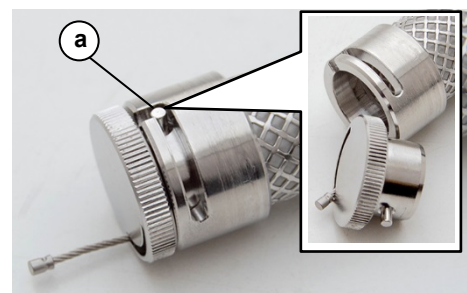

Fig. 37: Cleanfinity filter opened
1. Turn the bayonet lock of the sealing cap anti-clockwise until the stop (Fig. 37, pos. a). Remove the sealing element from the Cleanfinity filter.